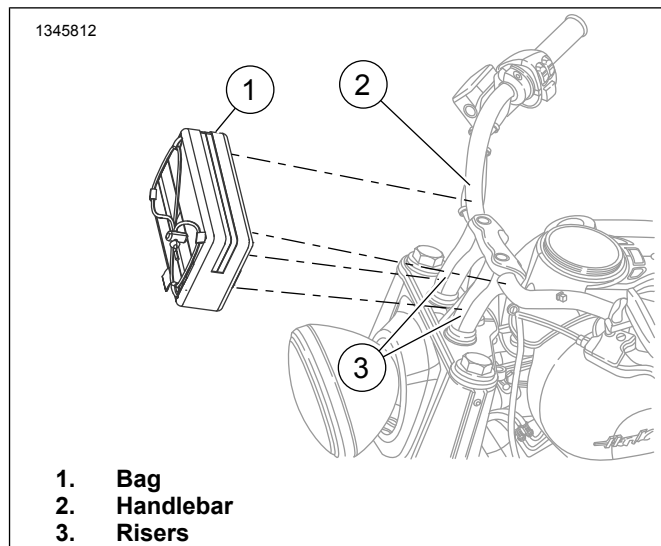

Figure 3. Bag and Hook-and-Loop Attachment
2. Figure 3 Secure hook-and-loops on bag to handlebar (2) and risers (3).